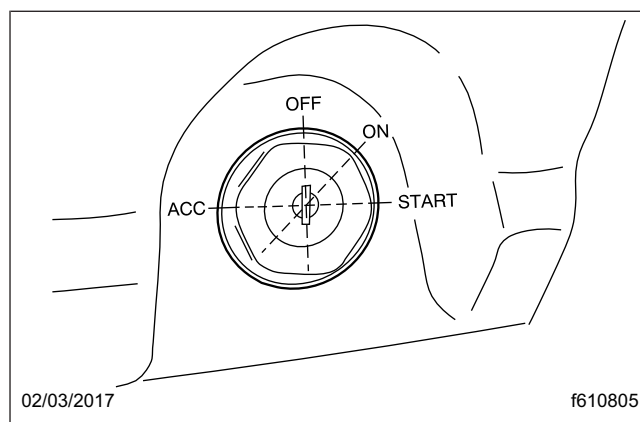

Fig. 7.14, Ignition Switch
4. Turn the ignition switch to ON. See Fig. 7.14. The following actions should occur: